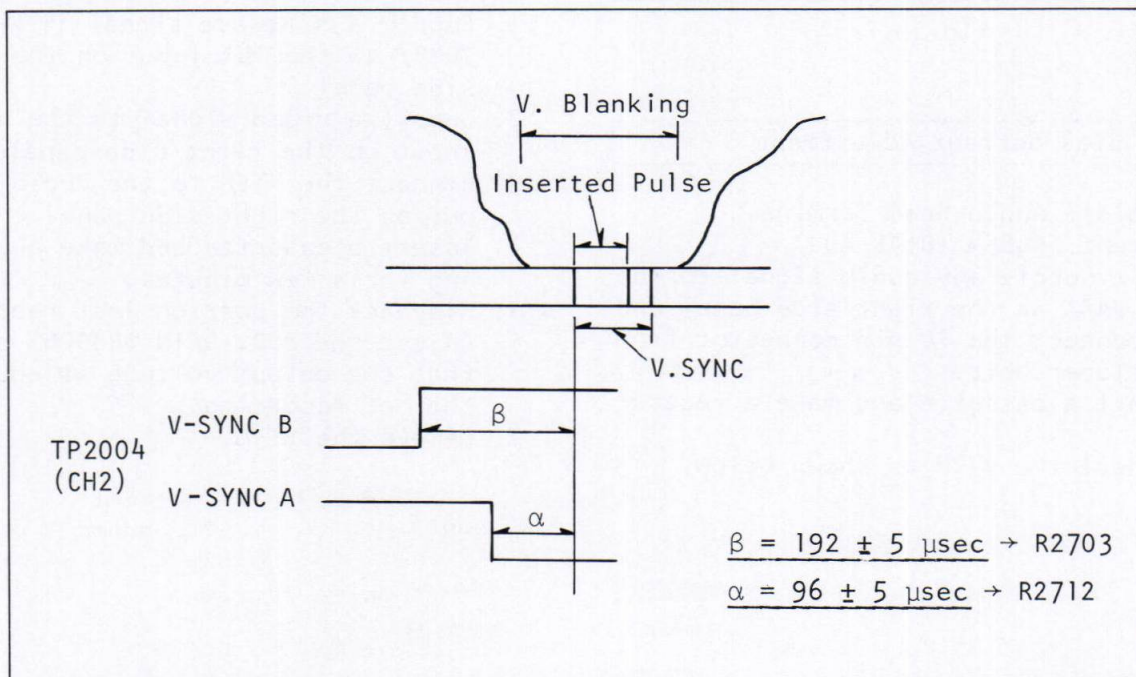

Fig.22.
6. Adjust V-SYNC B (R2703) and V-SYNC A (R2712) as shown in Fig. 22.